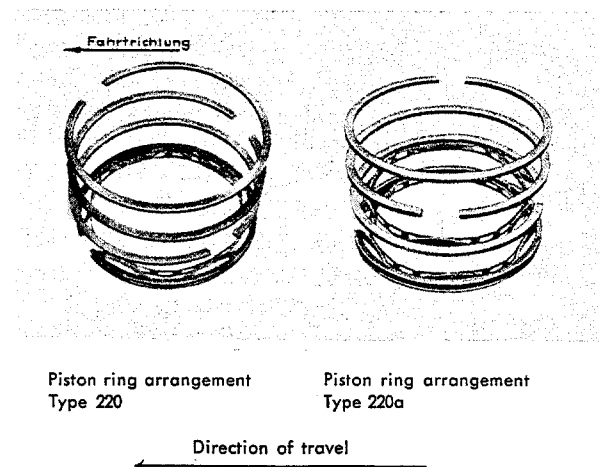

Fig. M 3/54
55. Put on connecting rod caps and tighten. See that nuts are correctly positioned (Fig. M 3/55).